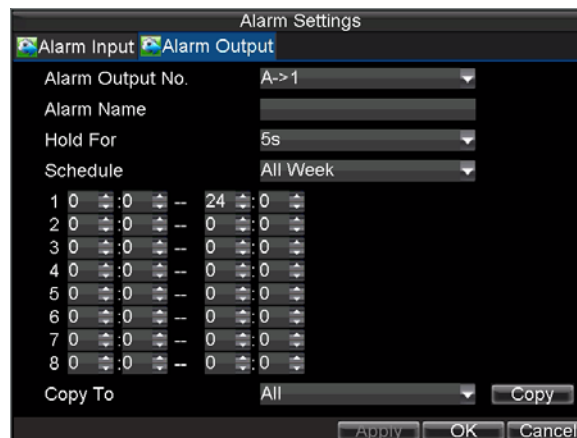

Figure 12. Alarm Output Settings
2. Select the output you would like to configure and click the Set button. This will bring up the settings page for the selected channel (Figure 12).